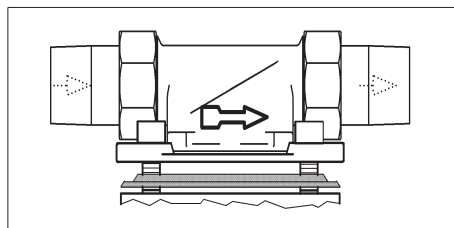

Fig. 1: Built-in rotary flange
- direction of flow (see fig. 1).
The cast in arrow of the built-in rotary flange must match the direction of flow of the water (see fig. 1).